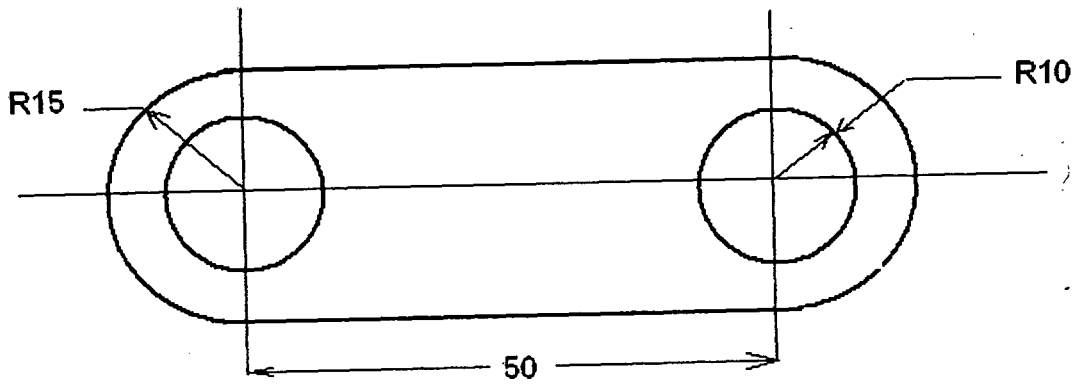

Fig.11
11. Design and draw two views of a progressive die is to be designed for producing the component shown in Fig.11. The sheet metal is of 16 gauge and made of Cold Rolled Steel of Ultimate Strength 580 N/mm2.